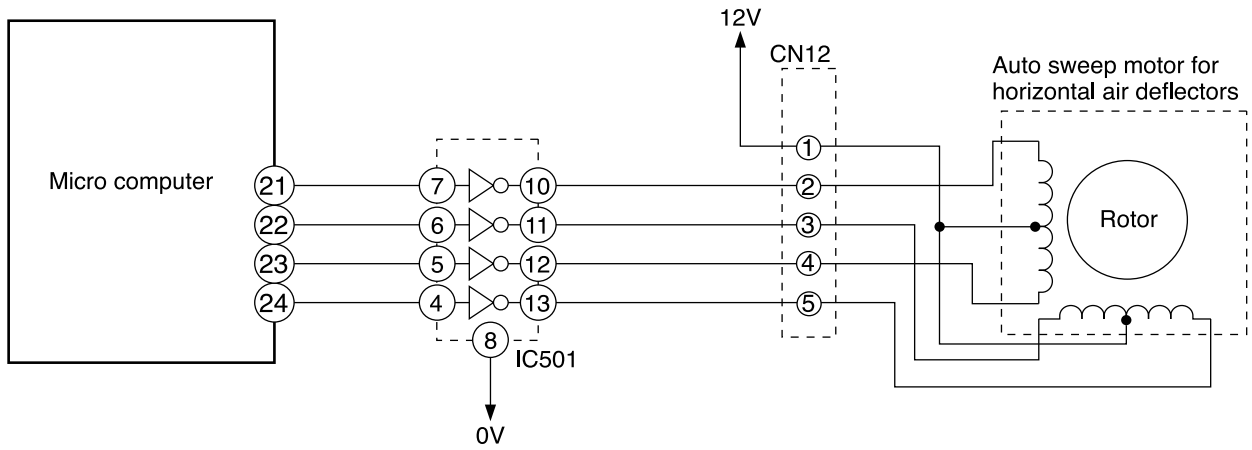

Fig. 5-1 Auto Sweep Motor Circuit (Horizontal air deflectors)
- Fig. 5-1 shows the Auto sweep motor drive circuit; the signals shown in Fig. 5-2 are output from pins ⑮ – ⑱ of the micro computer.